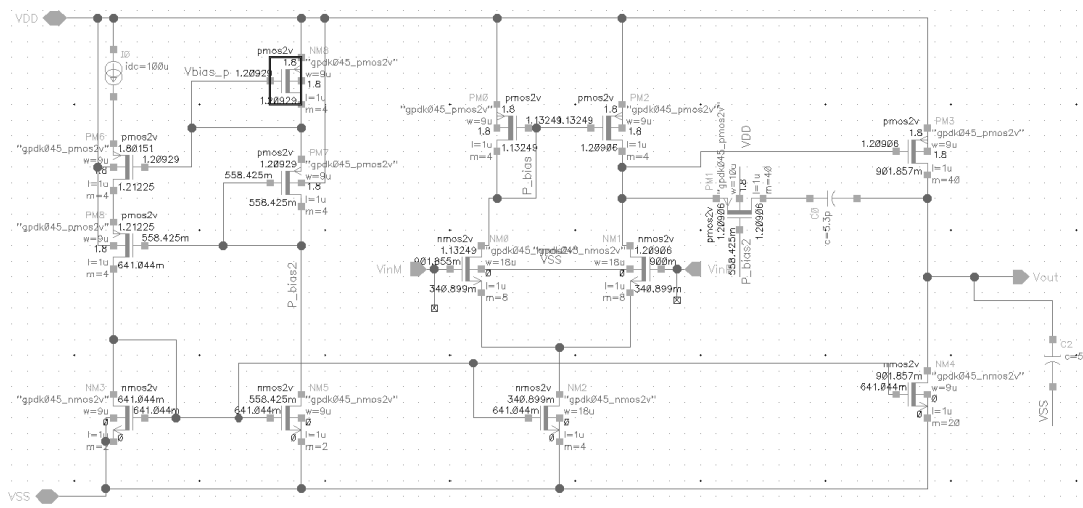
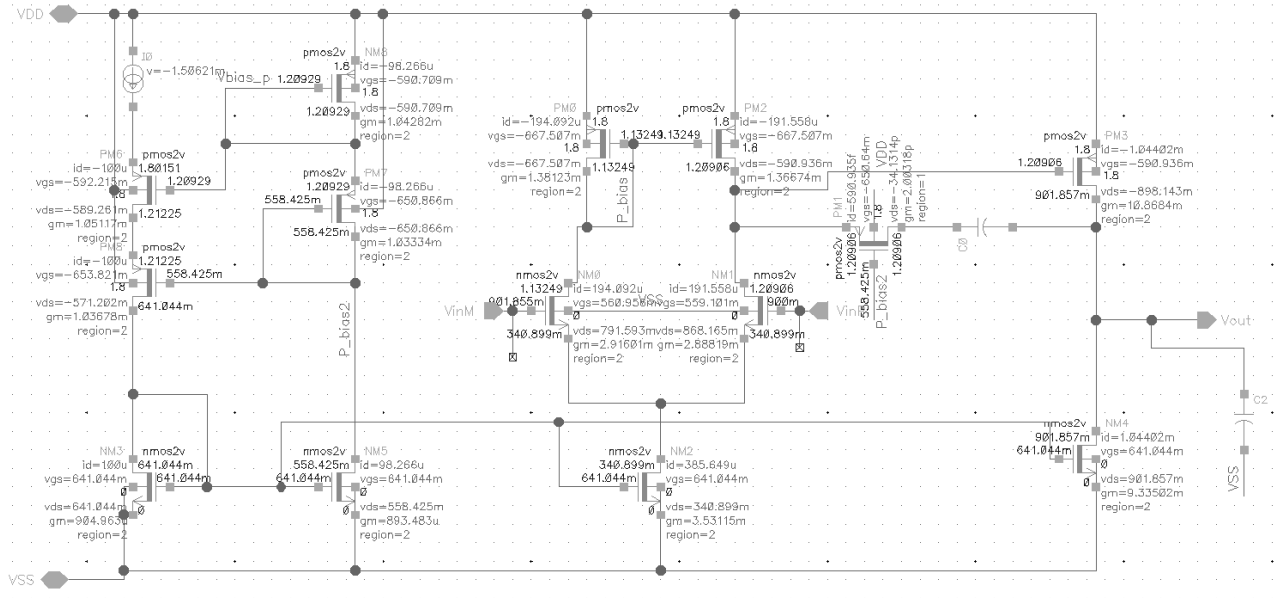

Figure 6: Two stage OPAMP with PMOS as a compensation  $R_z$  transistor sizes.
Figure 7: Two stage OPAMP with PMOS as a compensation Rz DC operating values and node voltages.
a. Figure 6 shows the transistors sizes and figure 7 shows the transistors DC operating values. The transistors have been size to meet the require specs.